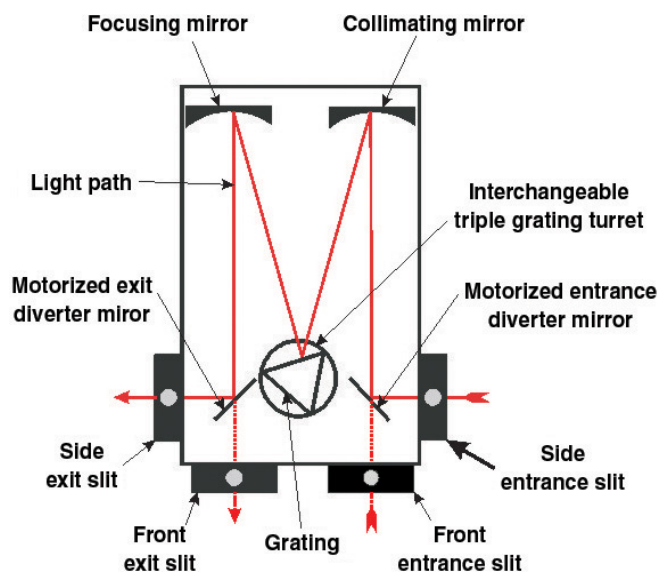

Figure 2. 500 mm Spectrograph/750 mm Spectrograph Components
Both 500 mm and 750 mm TriVista stages have the same Czerny-Turner design. Each stage features two (2) entrance slits and two (2) exit slits (see Figure 2). The Front exit of each stage is suitable for mounting a CCD or a PDA array detector.